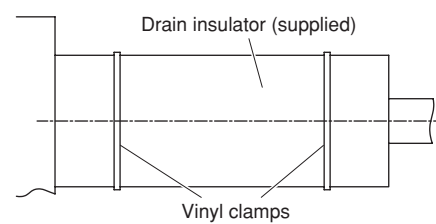

Fig. 3-69
- (2) After connecting the drain piping securely, wrap the supplied packing and drain pipe insulator around the pipe, then secure it with the supplied vinyl clamps. (Fig. 3-69)